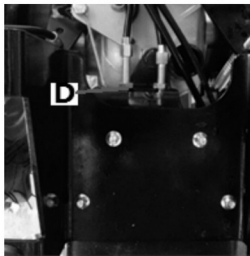

Fig. 36
- adjust the clutch, unscrewing adjusting screw B (fig.17) on the down clutch handle C, or adjusting screw D (fig.36) on the above clutch handle B, until the clutch disengages properly. To replace and assemble the clutch refer to